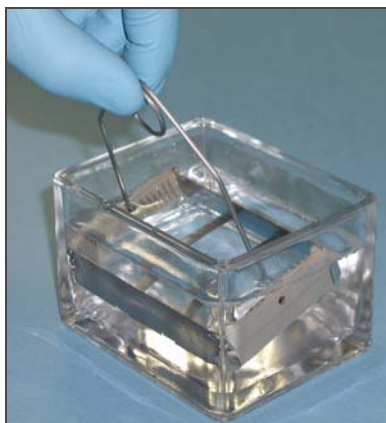

Figure 48 Wash Rack in Wash Dish Containing PB1
2. Attach the wire handle to the rack and submerge the wash rack in the first wash dish containing 200 ml PB1 (Figure 48).